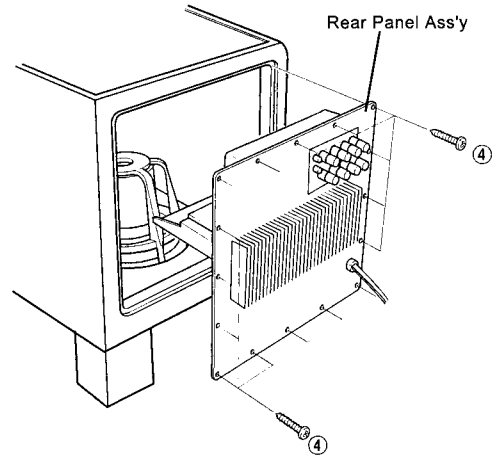

Fig. 3
Remove 16 screws (④) in Fig. 3.